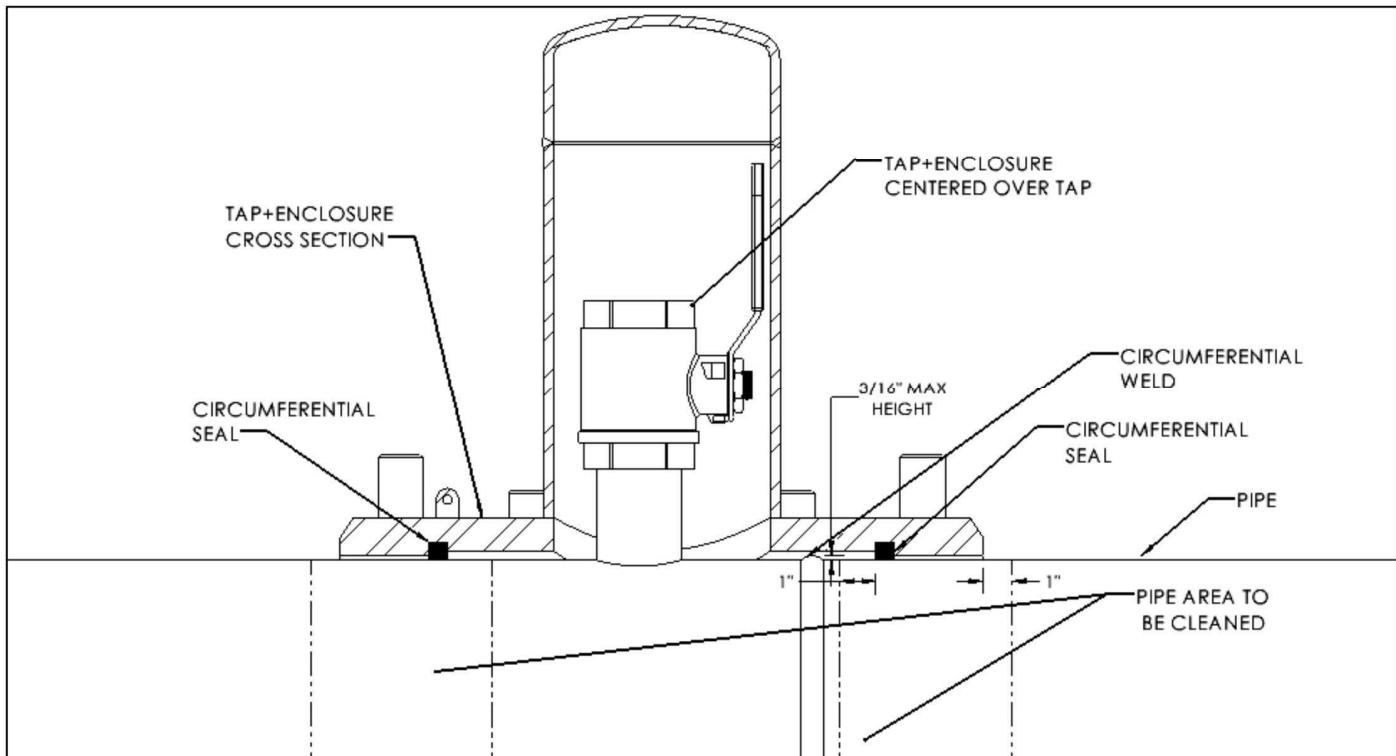

Figure 1
2. Remove all coatings, rust, and scale from the pipe surface where the circumferential seals of the PLIDCO Split+Sleeve will contact the pipe (see Figure 1). A near-white finish, as noted in SSPC-SP10 / NACE No.2, is preferred 1" (25mm) before and after the seal. The cleaner the pipe surface, the more positive the seal. Sandblasted surfaces should be buffed smooth.
3. Where the circumferential seals will contact any longitudinal welds, circumferential welds, spiral pipe welds, or other protrusions, the welds in this vicinity must be ground flush with the outside diameter of the pipe. The area should extend 1 inch (25mm) inside of the seals and 1inch (25mm) beyond the end of the fitting as shown in Figure 1 designated, "Pipe area to be cleaned".
4. Circumferential & longitudinal pipe welds between the circumferential seals do not need to be ground flush as long as the weld height does not exceed 3/16 inch (4.7 mm) (see Figure 1).